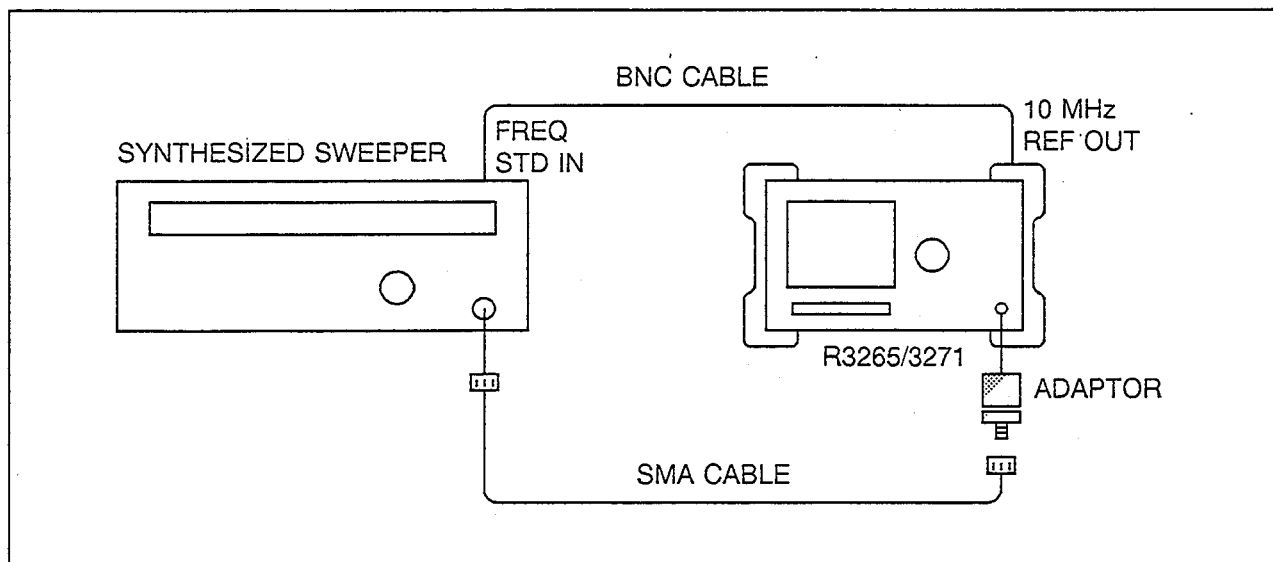

Figure 5-16 SPAN Adjustment Setup
- (1) Connect the equipment as shown in Figure 5-16.
- (2) Set the TR4515 controls as follows: